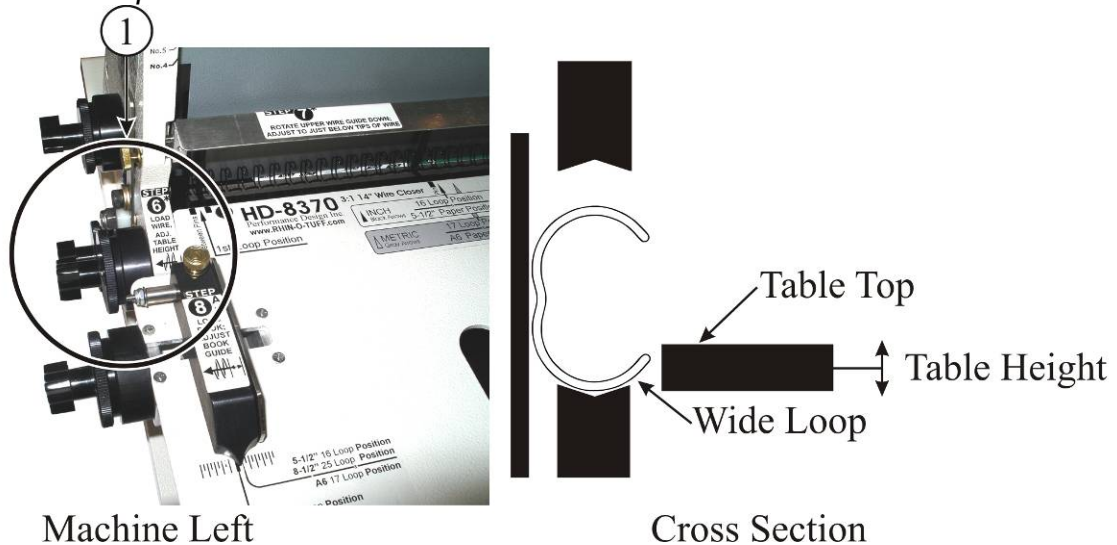

Fig. 6c
**STEP 6, Adjust Table Height:** See Figure 6c.
Locate the table height adjustment knob (1) only on the left side of the machine, unlock center winged knob and turn the outside dial until the wide loops of wire are slightly below table's edge. As shown in Figure 6c Cross Section. Lock the center winged knob.